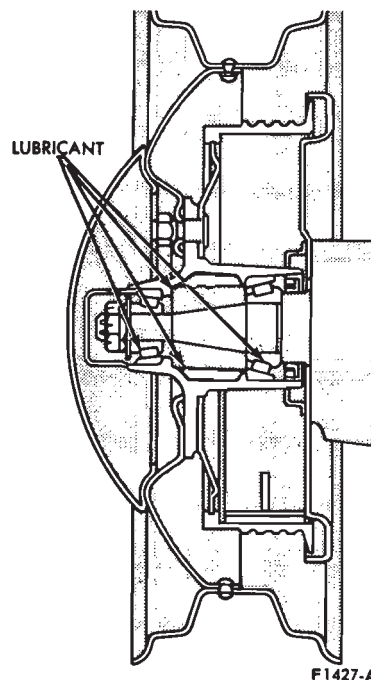

FIG. 6—Front Wheel Hub Lubrication
9. Pack the inside of the hub with specified wheel bearing grease. Add lubricant to the hub only until the grease is flush with the inside diameter of both bearing cups (Fig. 6).
6. Pack the inside of the hub with specified wheel bearing grease. Add lubricant to the hub only until the grease is flush with the inside diameter of both bearing cups (Fig. 6).